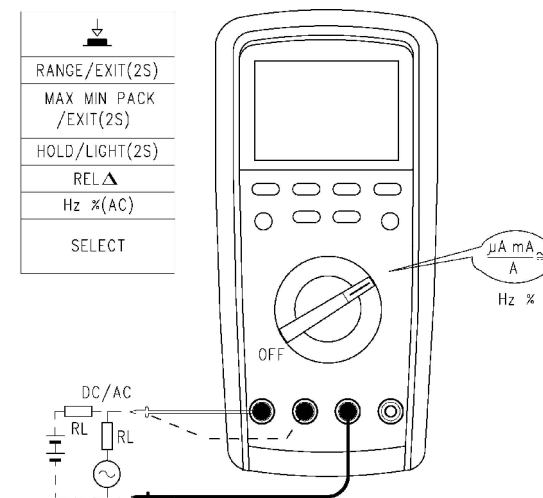

Figure 10
8. Measuring AC/DC (see Figure 10)
- * Long press SELECT in mA function range, to access % (4-20mA) measuring function, and the percentile calibration of measured current will be displayed: 4mA for 0%; 20 mA for 100% (applicable to UT171B/C only), see Figure 10.